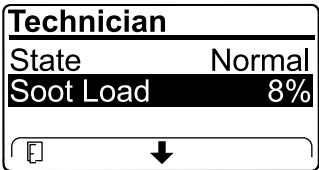

Figure 62
- View the soot load which is measured as the percentage of soot in the DPF(Figure 62); refer to the soot-load table.